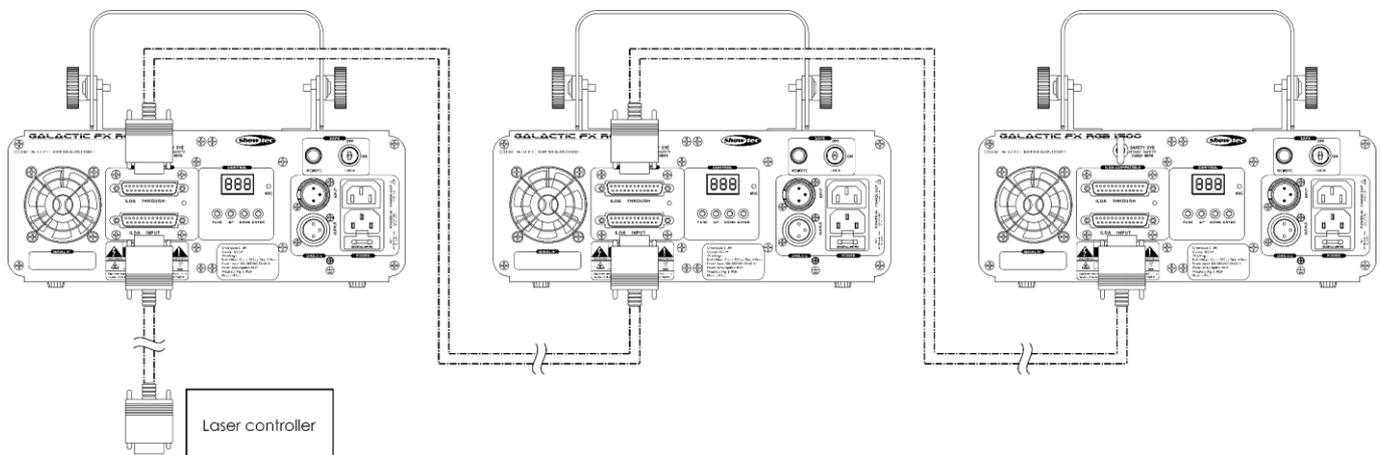

Fig. 15
- 03) Repeat step 2 to connect all devices in a daisy-chain as shown in Fig. 15. The devices recognize automatically the ILDA connection and can be operated with ILDA-compatible software.